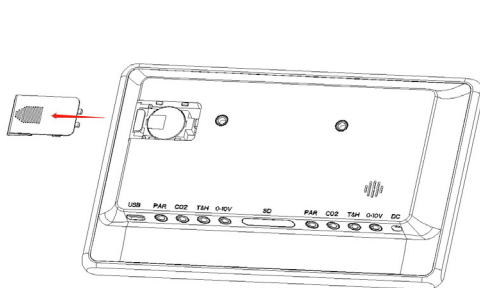
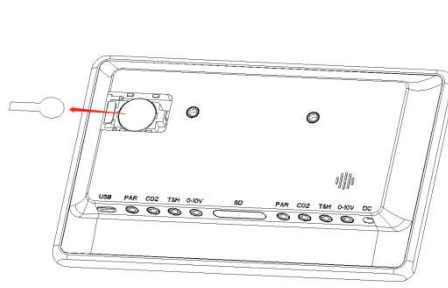

Figure 1
Figure 2
4.1.1. First take out the controller from the box, open the battery cover (as shown in Figure 1), and take out the battery insulating sheet inside (as shown in Figure 2). After completing the above steps, the battery cover can be closed; then screw on the screw. It is used for the suspension of the main body of the controller (as shown in Figure 3).